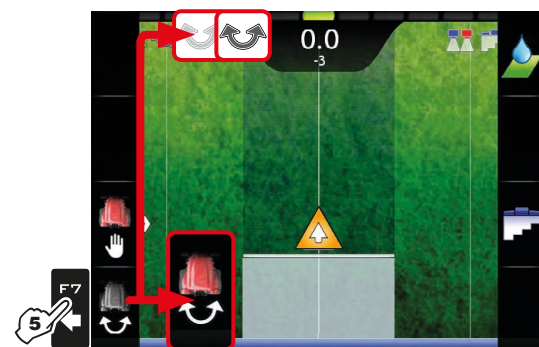

Fig. 50
- 5** Press **F7** (Fig. 50) to start / stop the steering draw bar automatic control.